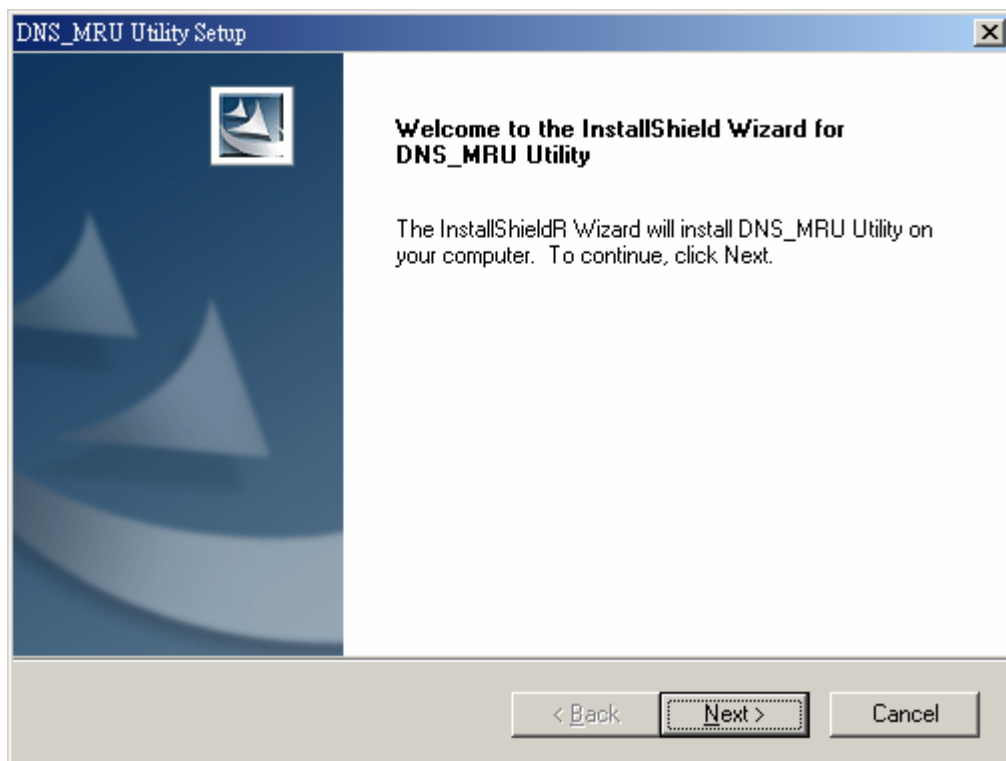

Figure 6-2. Welcome dialog
**Step 3:** A “Welcome” window pops up to prompt user to begin the installation. See figure 6-2.